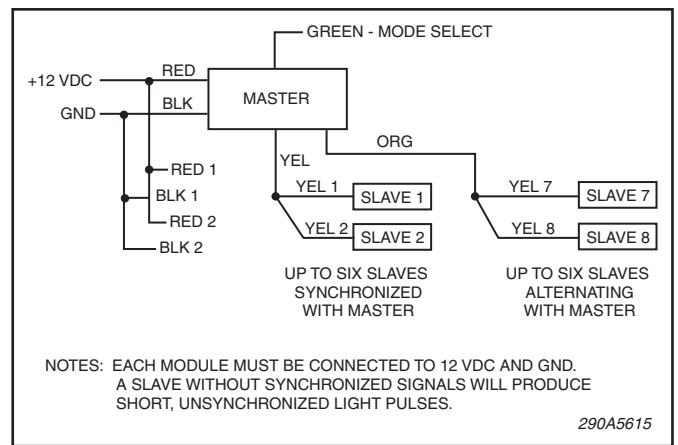

Figure 3.
11. Connect the light-heads using figure 3 as a guide.
10. Connect the light-heads using figure 3 as a guide.